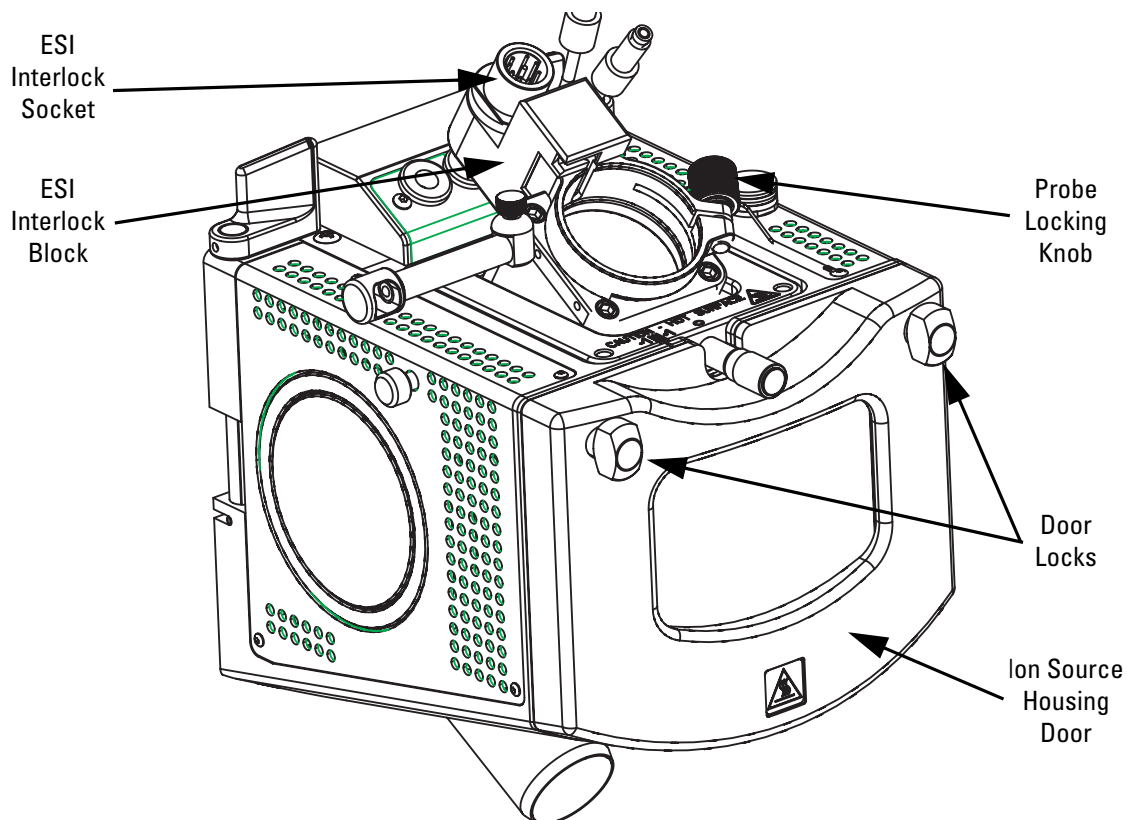

Figure 2-3. Ion Max, detail of components
2. Connect the vaporizer heater cable to the ESI interlock socket on the ion source housing. See Figure 2-3.